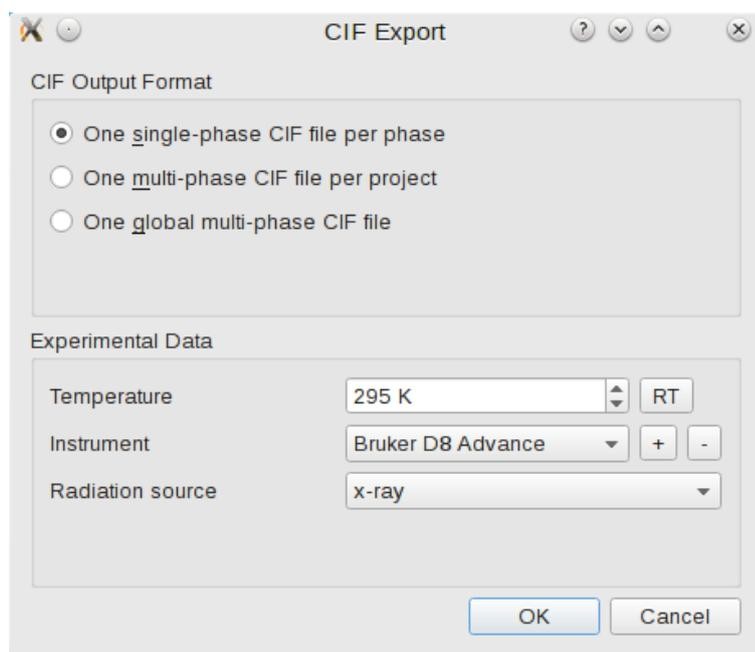

Figure 6: Export options for CIF structure files.
5. A CIF export dialog will be shown (Fig. 6). Set up the output options to your preferences and click „OK”. The individual options will be explained below.